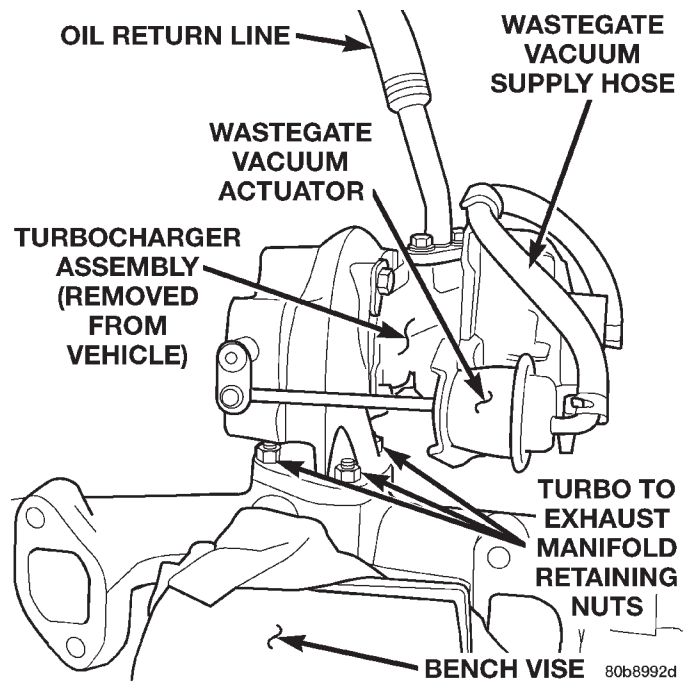

Fig. 9 Turbocharger / Exhaust Manifold Assembly
(1) Transfer the oil return hose to the new turbocharger (Fig. 9).
(2) Install the turbo on the exhaust manifold (Fig. 9). Torque the nuts to 32 N·m (23 ft. lbs.).
(3) Install the exhaust manifold and turbocharger assembly in the vehicle.
(4) Install the (8) exhaust manifold retaining nuts. Torque nuts to 32 N·m (23 ft. lbs.).